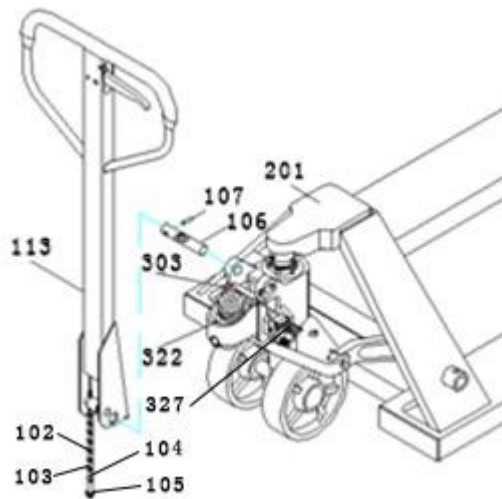

Fig. 1.
For the ease of transportation the handle and the body of the trolley are packed separately. The user can mount them according to figure 1 and 2.
- Then lower the handle (113), remove the restrictive arm of the cylinder rod (322) (as shown in figures 1 and 2).
- Drive the hinged bolt (103), hex nut (104), non-metallic insert clamp nut (105) and chain (102) through the central hole of the handle positioning shaft, then adjust pedal control (327). Place the hinged bolt (103) in the groove in front of it, and hex nut (104) on the top of pedal control (327), and insert non-metallic insert clamp nut (105) under the pedal control (327). Thus, the handle is installed on the hydraulic pump.